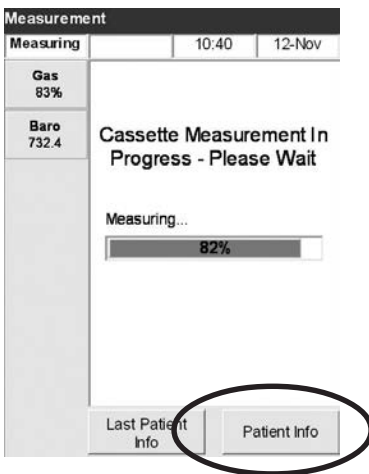

Fig. 5-12 Sample Measurement
- Next the sample is measured. During the measurement the status light is blinking and a progress bar is displayed (Fig. 5-12).
8. To enter patient information while measurement is in progress, press **<Patient Info>** (Fig. 5-12).